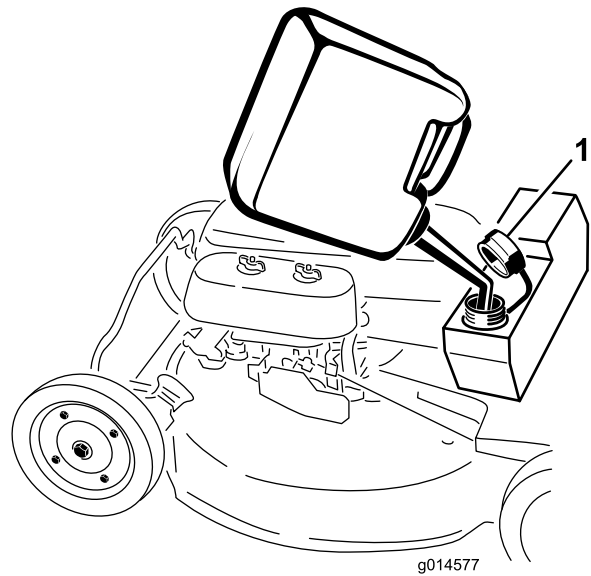

Figure 14
1. Clean around the fuel tank cap (Figure 14).